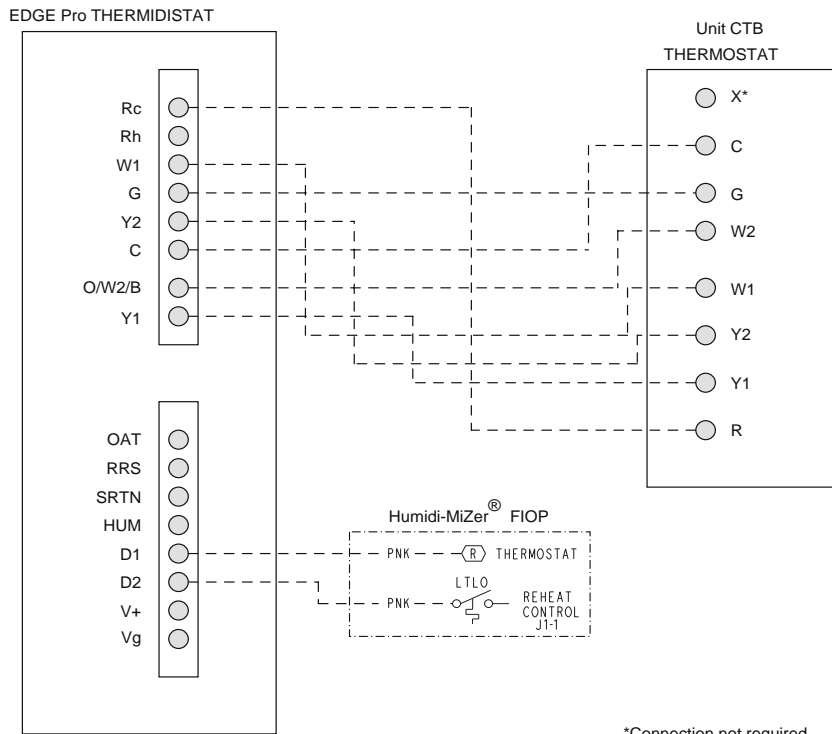

Fig. 36 — Typical Rooftop Unit with Humidi-MiZer Adaptive Dehumidification System with Edge Pro® Thermidistat Device
3. The Thermidistat has dry contacts at terminals D1 and D2 for dehumidification operation (see Fig. 36). The dry contacts must be wired between CTB terminal R and the PINK lead to the LTLO switch with field-supplied wire nuts. Refer to the installation instructions included with the Carrier Edge Thermidistat device for more information.